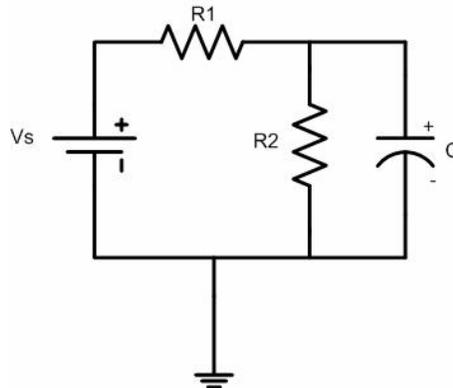

Fig 7-3
Where  $V_o$  is the initial voltage across the (fully charged) capacitor before the power source is switched off. And the capacitor starts releasing energy to the circuit. An RC circuit is shown in Fig. 7-3. Summarizing, the natural response of an RC circuit is calculated by:
1. Assemble the circuit in Figure 7-3 with the component values shown in Table 7-3.